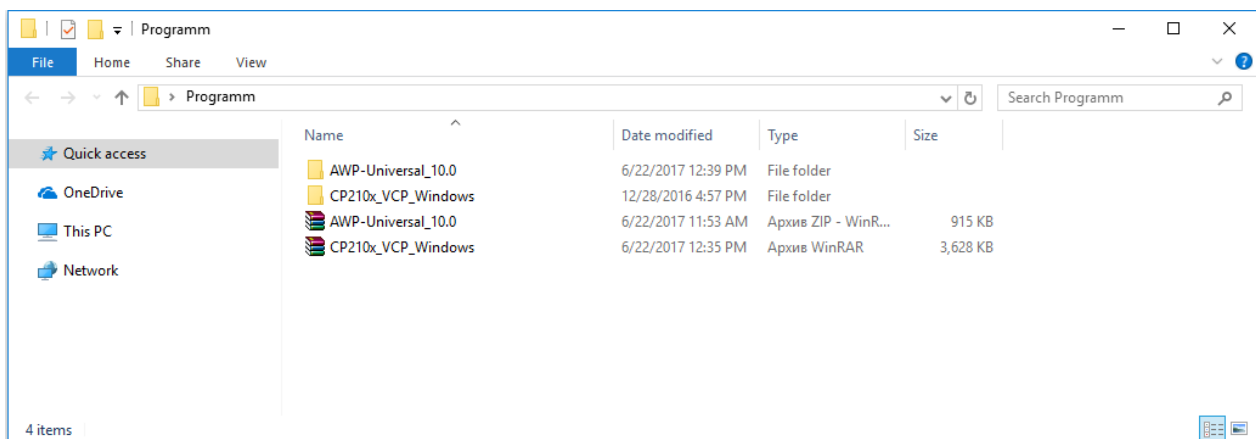

Figure 2.51 – Downloaded software
2. Unpack the files getting two folders (Fig. 2.51).